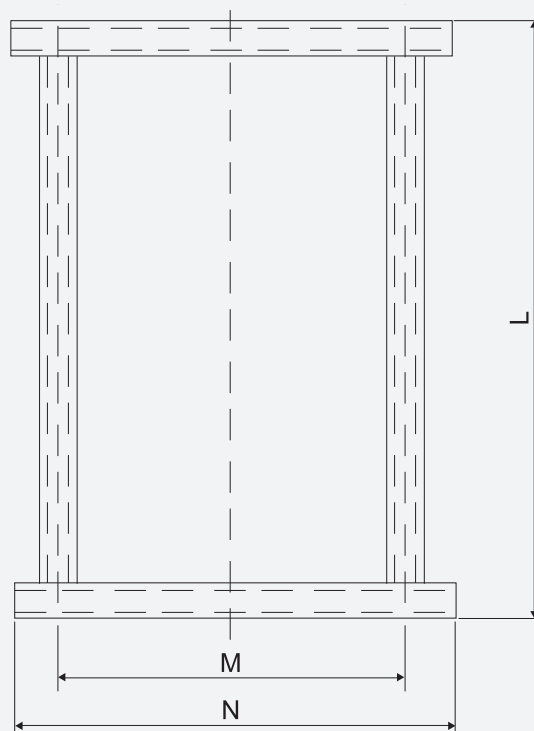

Figure 3/1 Foundation Drawing of Switchgear Installation
(Figure 3/2 to 3/4)
3.2.1 The foundation dimension and erection dimension of switchgear installation are shown in Figure 3/2 to 3/4.